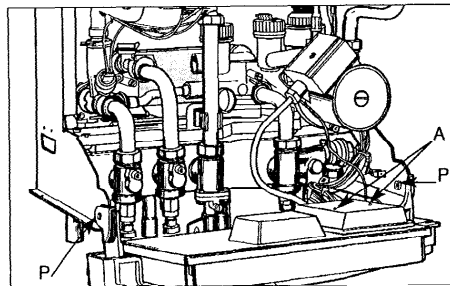

Fig. 19
- Hinge down the electrical box to gain access to the valves connections. Push in the tabs (P Fig 19) on either side of the boiler and pivot the box forward.
Hinge down the electrical box to gain access to the electrical connections. Push in the tabs (P fig 19) on either side of the boiler and pivot the box forward.
Undo the two retaining screws (A fig 19), lift the cover and turn over, and remove cable clamp (see fig. 19a).
Fig. 19 a